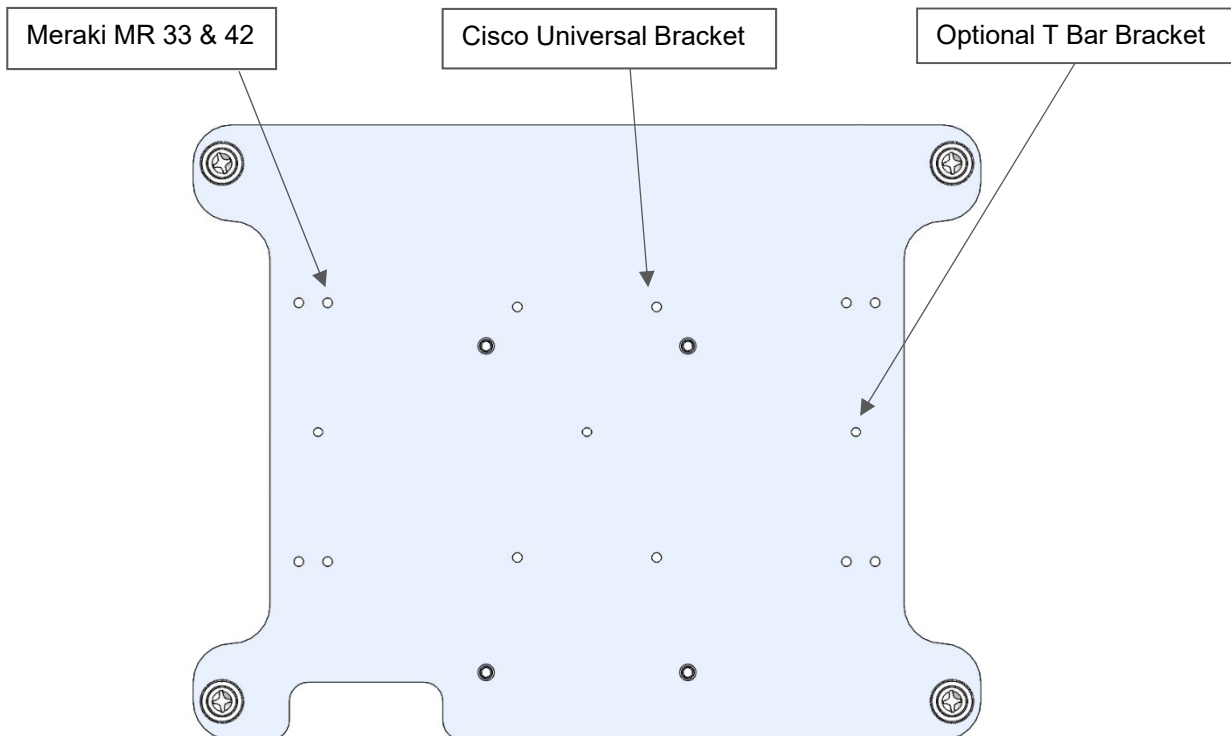

Figure 6B.
6) For the Cisco Low Profile Universal Bracket, install using the included #8-32 screws (QTY 4) . Additional AP mounting options shown in Figure 6B.